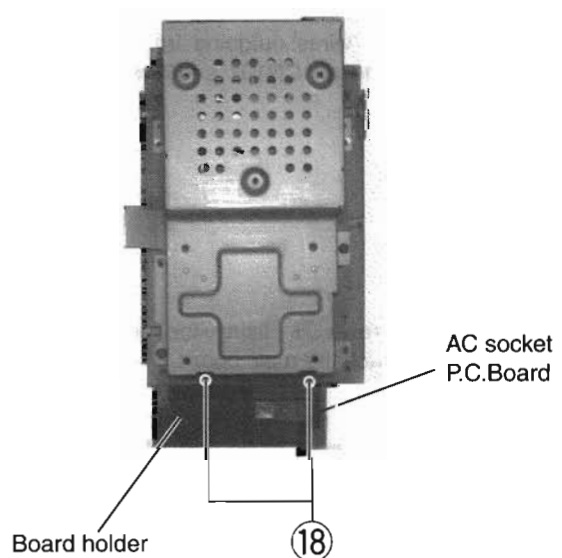

Fig.30
■ Removing AC socket board (see Fig.30)
1. Remove the two screws ⑱ attaching the board holder, then remove AC socket P.C.Board.